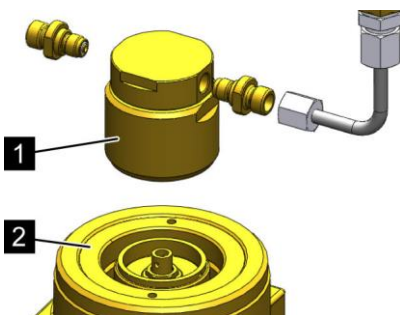

Fig. 138: Removing the release device
1. ➤ Unscrew the release device (Fig. 138/1) from the valve (Fig. 138/2) of the extinguishing agent container.